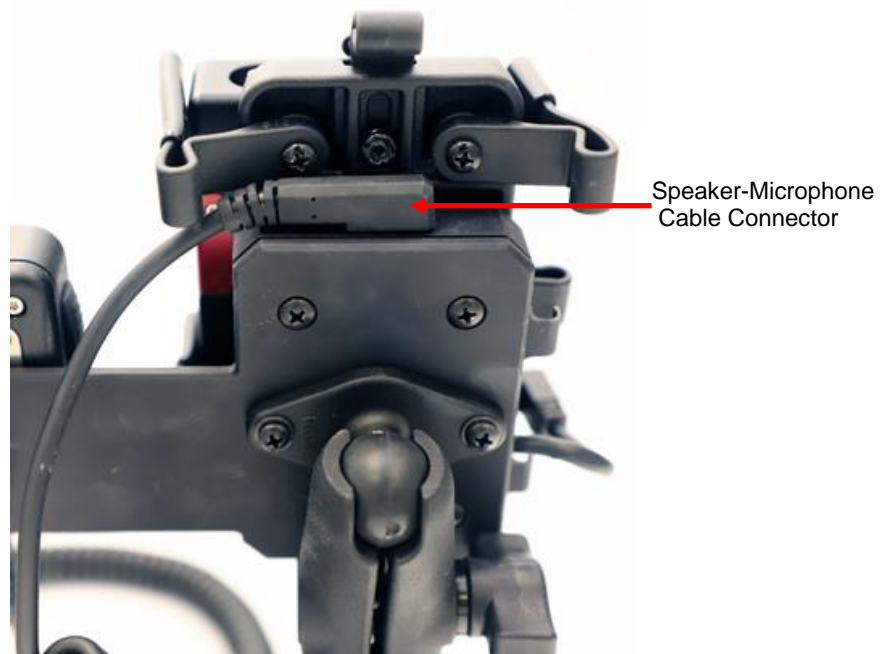

Figure 149: Speaker-Microphone Cable Connected to Audio Box
6. Attach the connector at the end of the Speaker-Microphone dual prong cable to the connector port on top of the Audio Amplifier Module (see **Figure 149**).